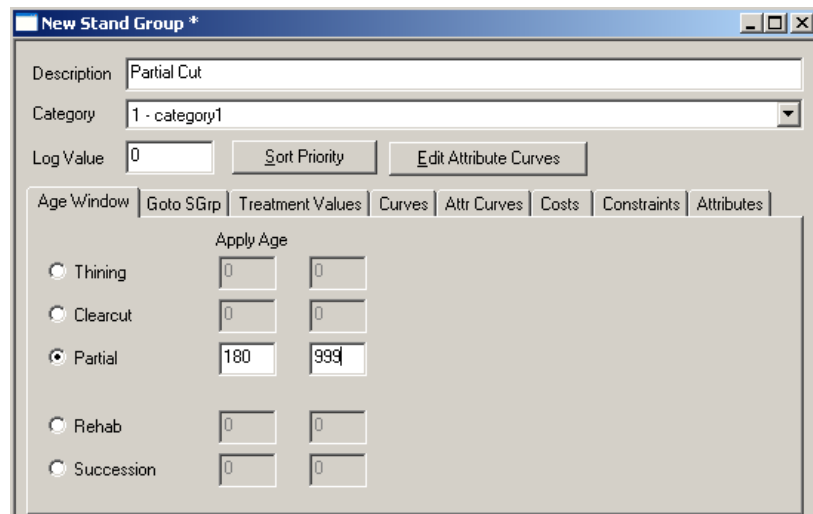

Figure 47: Creating a new stand group
- 8.2.5 Set a *Minimum* of 180 and a *Maximum* of 999 (Figure 47).